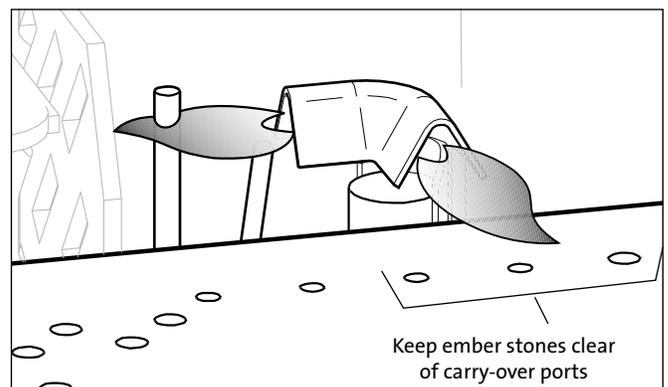

Figure 39. Proper pilot flame appearance relative to burner carry-over porting.
2. **PILOT FLAME:** You can monitor the pilot flame located under the Rear Log. See fig. 39, pg. 22. The pilot flame should be steady - not lifting or floating. The flame should be blue in color around the pilot hood, with traces of yellow toward the outer edges.